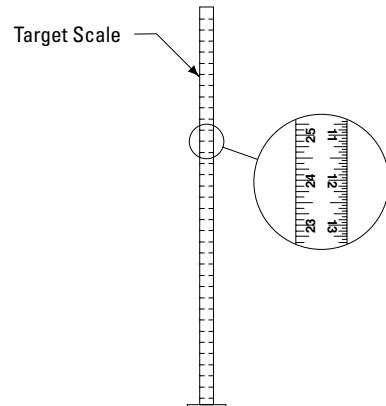
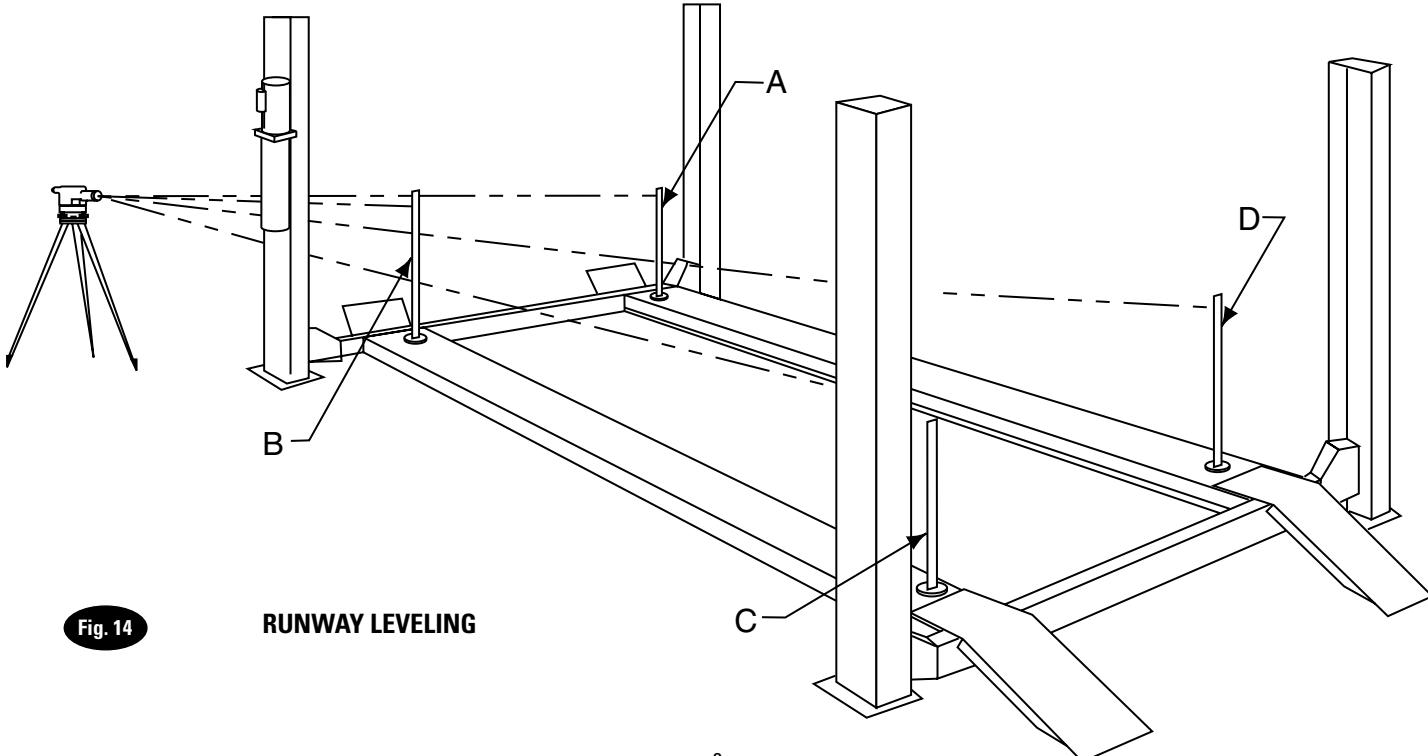

Fig. 15
Fig. 14
- C. First place the Level target at the highest corner of the lift. Place it on the runway center line within 6" of yoke tube, whichever one is located over highest point. This will be referred to as target "A" position. Beginning with target "A" position, Fig. 14, sight the Level to the target and mark the number or the graduation on the inch scale of the target that aligns to the crosshairs of the Level, Fig. 15.
- D. Next, move the target and place it on the runway at point "B", Fig. 14. Rotate the Level and focus on the target scale. Adjust the column at "B" using shims under base plate, Fig. 13, until the cross-hairs of Level align to reference mark on the target scale. Repeat for points C and D.